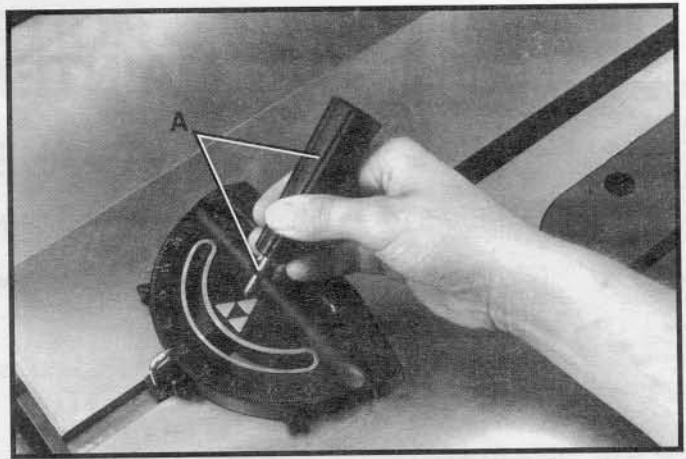

Fig. 52
Insert the miter gage bar into the miter gage slot and assemble the washer and lock handle (A) Fig. 52, to the miter gage bar as shown.